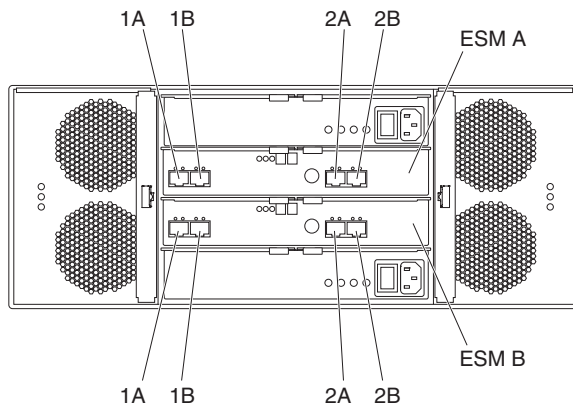

Figure 49. EXP5060 port labels
- The DS5100 or DS5300 controller drive port must always be connected to the EXP5060 ESM port labeled 1B in non-trunking configurations and EXP5060 ESM ports labels 1B and 2B in drive-side trunking configurations. Figure 49 shows the port labels on the EXP5060.